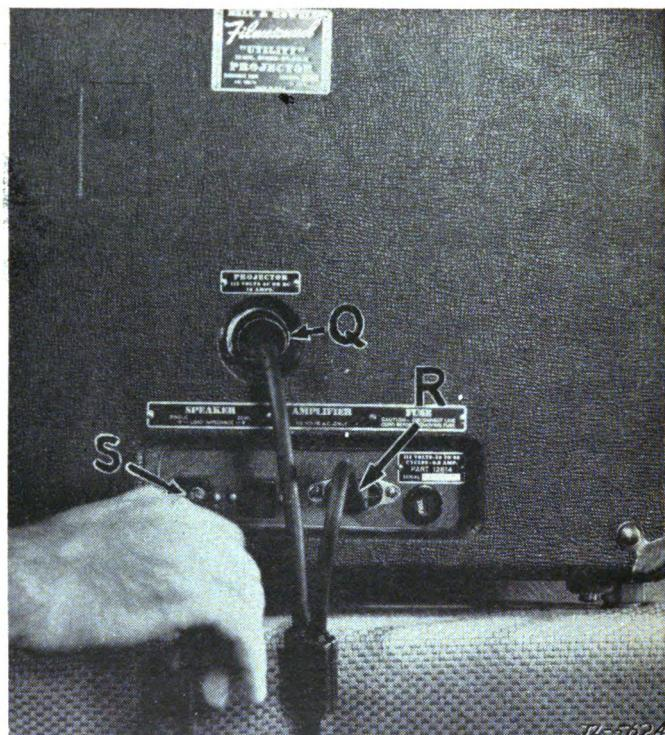

FIGURE 13.—Bell & Howell electrical connections.
(3) *Bell & Howell*.—Insert the female plug of the Y-power cable in the upper receptacle *Q* (fig. 13). Insert the male plug in the lower (amplifier) receptacle *R*. Connect speaker to projector by inserting the speaker cable plug in receptacle *S* on projector. Insert power plug into power source receptacle.